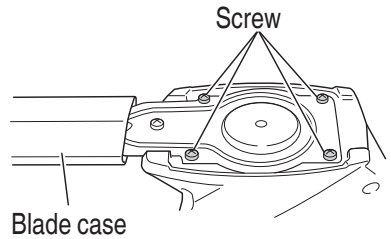

Fig. 6
- (1) Turn the tool over, remove the four screws using a Phillips screwdriver, remove the bottom plate and the blade (with blade case). (**Fig. 6**)